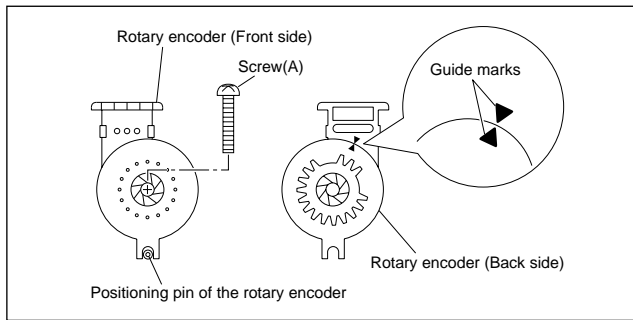
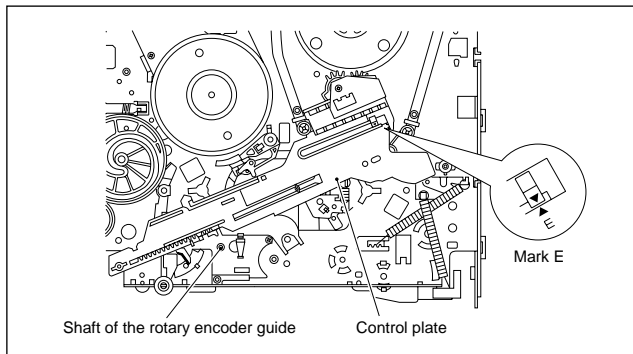

Fig. 2-2-10a
Fig. 2-2-10b
- (1) Remove the screw (A) and remove the rotary encoder by pulling it up. (See Fig. 2-2-10a.)
- (1) Make sure that the mark E of the control plate is in alignment with the mark ▼ of the loading arm gear shaft and bring the guide marks on the rotary encoder into alignment as indicated in Fig.2-2-10a. (See Fig. 2-2-10a and Fig. 2-2-10b.)
- (2) Turn over the rotary encoder with its guide marks kept in alignment and install it by fitting on the shaft of the rotary encoder guide and the positioning pin.
- (3) Tighten the screw (A) to complete the installation.